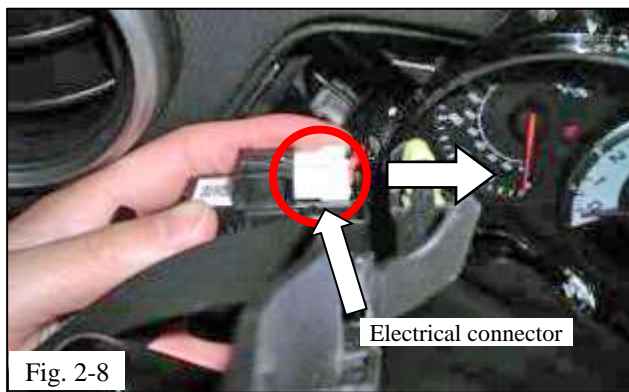

Fig. 2-8
(3) Tilt the top of the bezel forward, reach behind the bezel and disconnect the electrical connector from the bezel (Fig. 2-8).